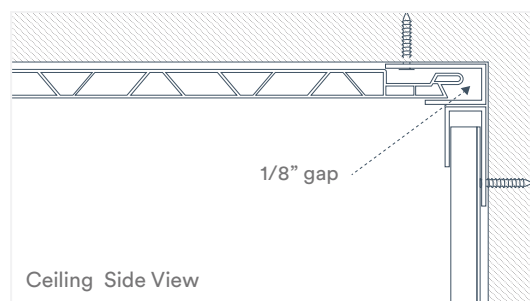

Fig. 8
- Leave a 1/8" gap between the tongue side of the panel and the adjoining trim. Fasten a minimum of once every 24" with the appropriate recommended fasteners. Remember to leave 1/4" of clearance at both ends of the panels for expansion and contraction (Fig. 8). Remember not to over tighten your fasteners.